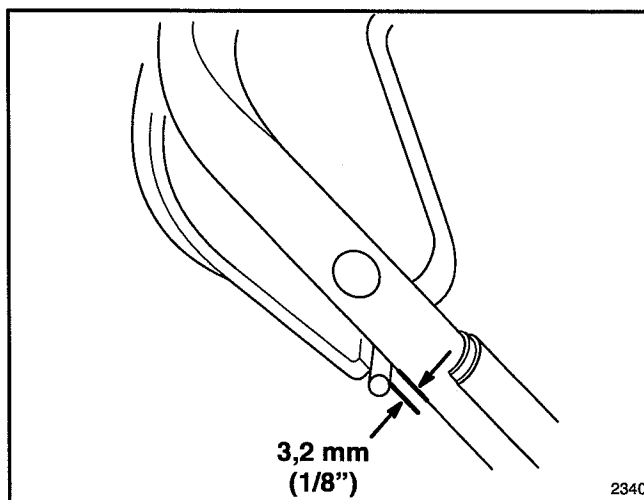

Figure 18
2. CHECK ADJUSTMENT (Fig. 18) – Move the blade control bar toward the handle until the slack in the wire is removed. The gap between the blade control bar and the handle must be 1/8".